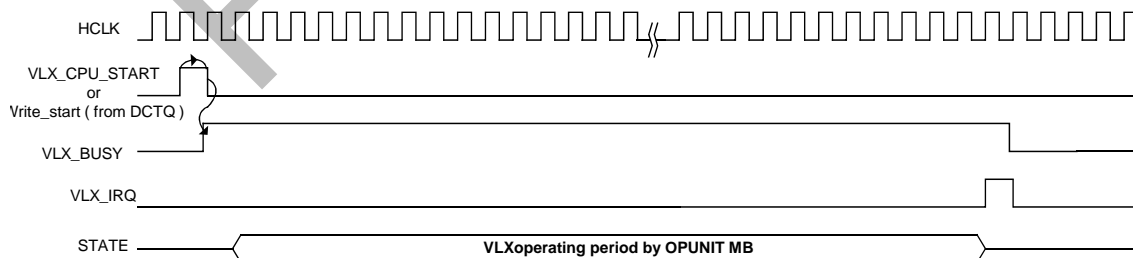

Figure 26-11 Start signal, busy signal and interrupt signal in VLD mode.
- Start signal and busy signal and interrupt relation is Fig.26-11